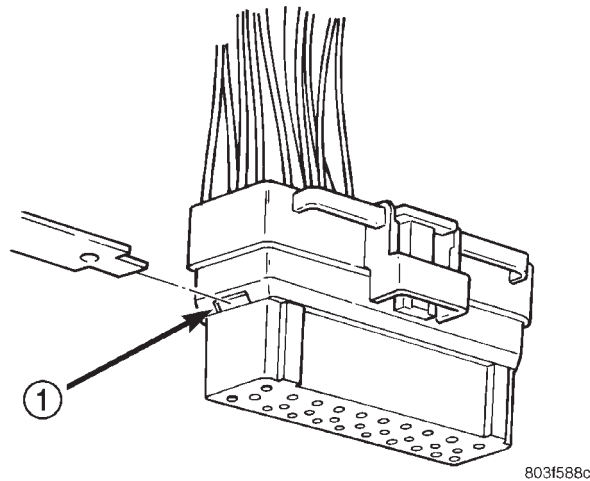

Fig. 12 Single Lock Tab
(8) Push in the single lock tab on the side of the connector (Fig. 12).